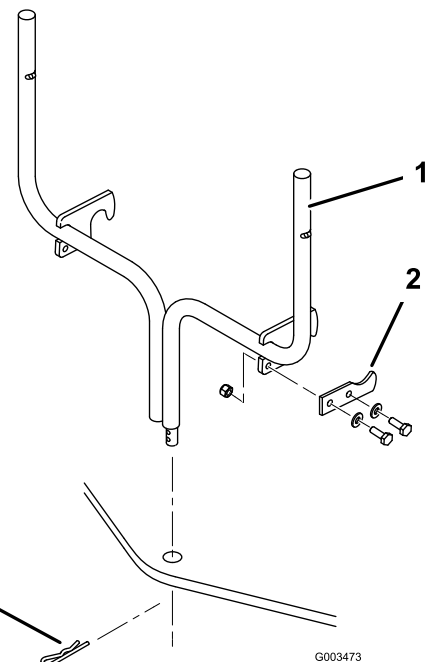

Figure 26
3. Remove the plates and fasteners from the quick-attach bracket (Figure 26).
4. Remove the hairpin cotter from the hole at the bottom of the quick-attach bracket (Figure 26).
5. Slide the bottom of the quick-attach bracket up out of the hole in the hitch (Figure 26).